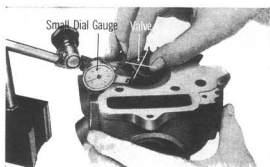

Fig. 21
3. Measuring valve stem and valve guide wear. Place a dial gauge against the valve stem and move the valve sideways and fore and aft. The amount of wear in any direction will be indicated on the gauge (Fig. 21).